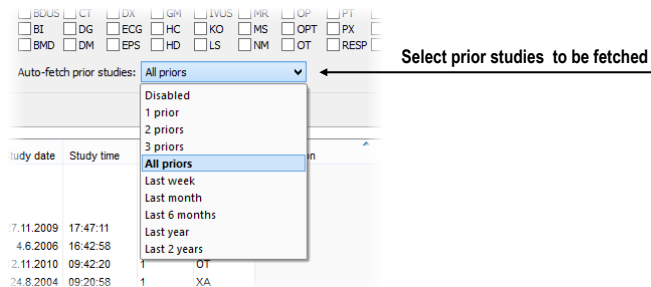

Figure 123 – Specifying which prior studies should be received
4. Set the parameters of the prior studies filter (see Figure 123), which defines the group of automatically added prior studies of the selected study in the worklist.